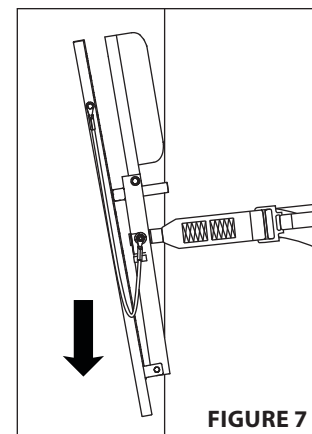

FIGURE 7
d. While platform is still folded up, push treestand in a downward direction to further tighten strap. **SEE FIGURE 7.**